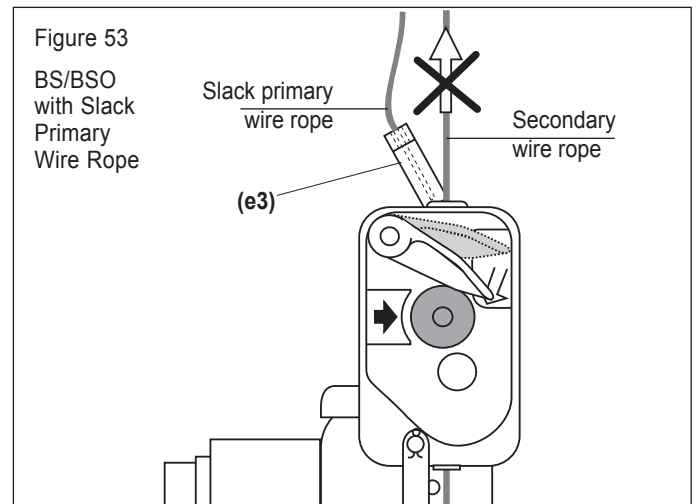

Figure 53
(4) If the BS/BSO secondary brake has **automatically closed on the secondary wire rope**, i. e. **release lever (e3) is tilted** because of slack primary wire rope (Fig. 53):